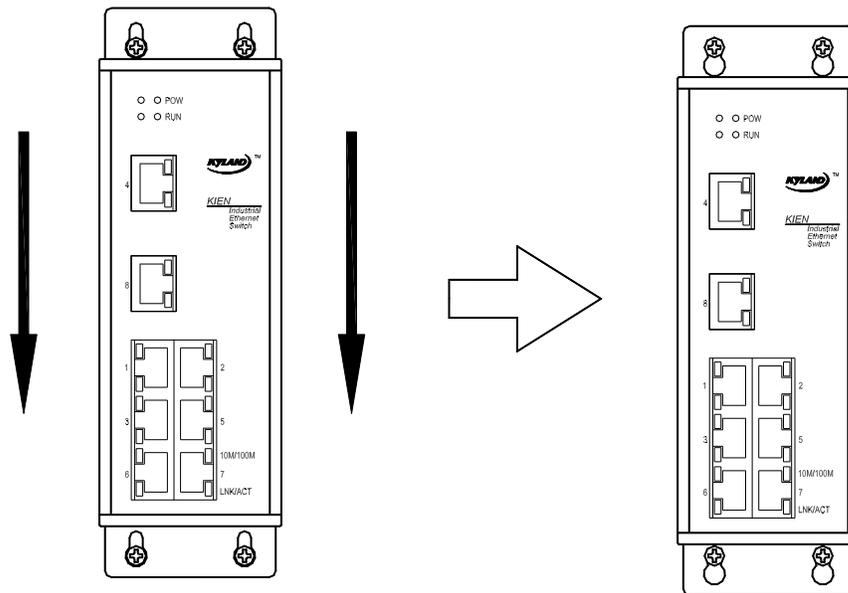

Figure 4-5 Schematic for Wall Hanging Mounting
- 4 . After screws are fixed on the wall, mount the switch on the selected position and make 4 screws pass through $4\Phi 6.5$ holes on the wall hanging plate. Slide down the switch, as showed in the Figure 4-5. Screw down 4 screws to fasten the switch on the wall or the internal wall of the switch cabinet.